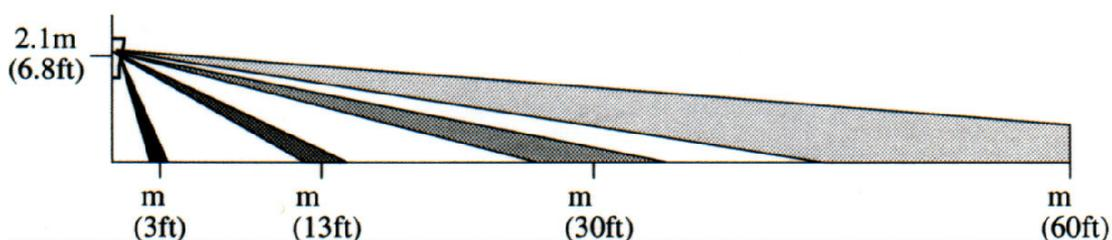

Figure 8 – side view, detection pattern in optimal temperature environment
- 2- Route the white-white/black wire (2 core-figure 8 cable) from the main unit through the ceiling to connect with the plug pack connector. Another suitable location for the power supply is on an available power point at the rear of the fridge in the kitchen. (See Section 2.3)